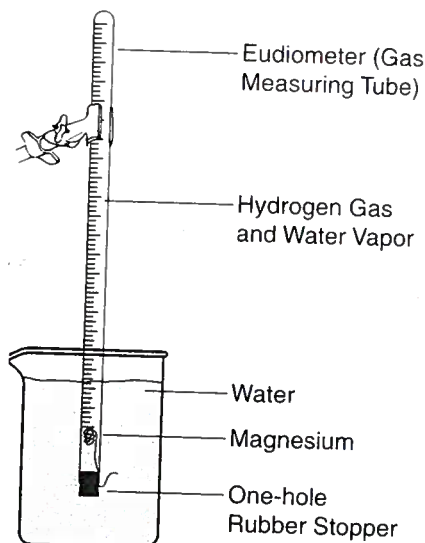

Figure 1.
Hydrogen gas will be collected by the displacement of water in an inverted gas measuring tube (also called a eudiometer tube) using the apparatus shown in Figure 1. The total pressure of the gas in the tube will be equal to the barometric (air) pressure. However, the gas in the cylinder will not be pure hydrogen. The gas will also contain water vapor due to the evaporation of the water molecules over which the hydrogen is being collected. According to Dalton's law, the total pressure of the gas will be equal to the partial pressure of hydrogen plus the partial pressure of water vapor (Equation 4). The vapor pressure of water depends only on the temperature (see Table 1).
6. Insert the straight end of the copper wire into a one-hole rubber stopper so that the cage end containing the magnesium is about 7 cm below the bottom of the stopper (see Figure 1). Hook the end of the copper wire around the top of the stopper to hold the cage in place.